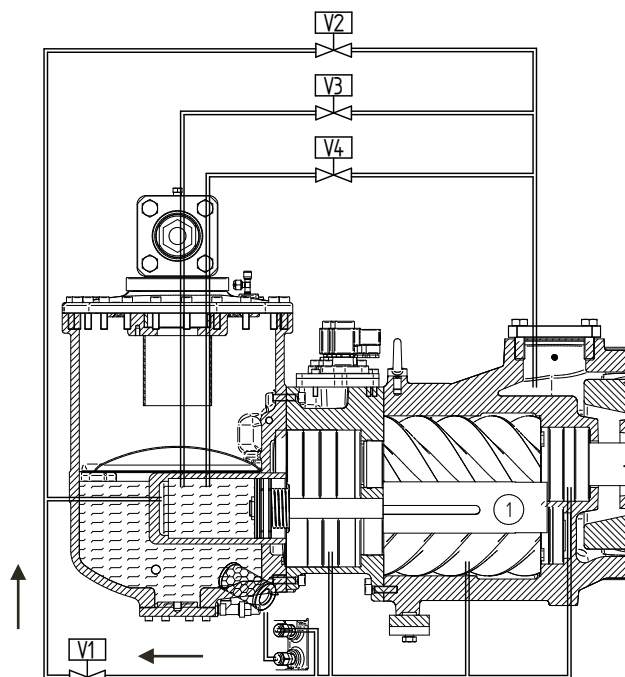

Fig. 18: step capacity control oil circuit
The cylindrical chambers that house the screw rotors are fitted with a longitudinal port, whose connection with the suction side is regulated by the position of the slide valve (17), see Fig. 18.
In fact due to the pressure difference, the oil can flow out of the cylinder to the crankcase through the pipe, see Fig. 18. Therefore the compressor can start again at the minimum capacity.